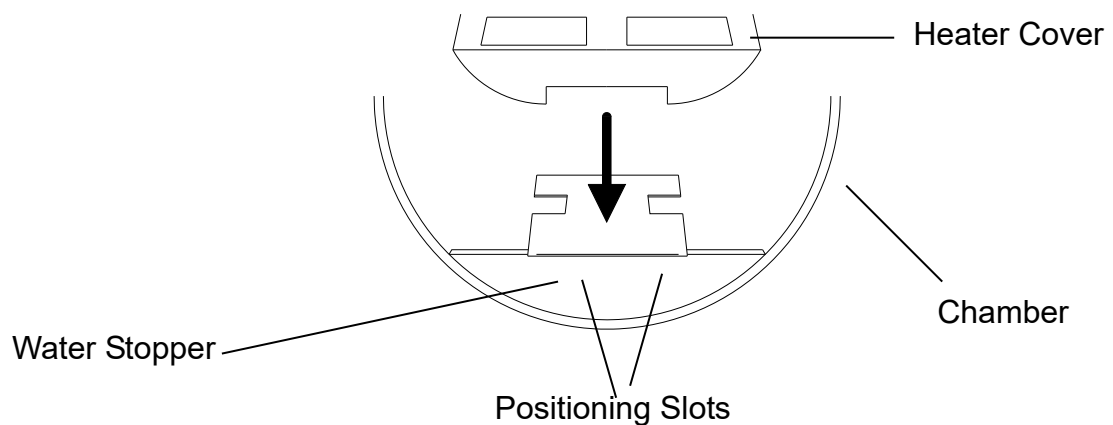

Figure 4
- B. Install the heater cover to the chamber as Figure 4. (standard accessory).